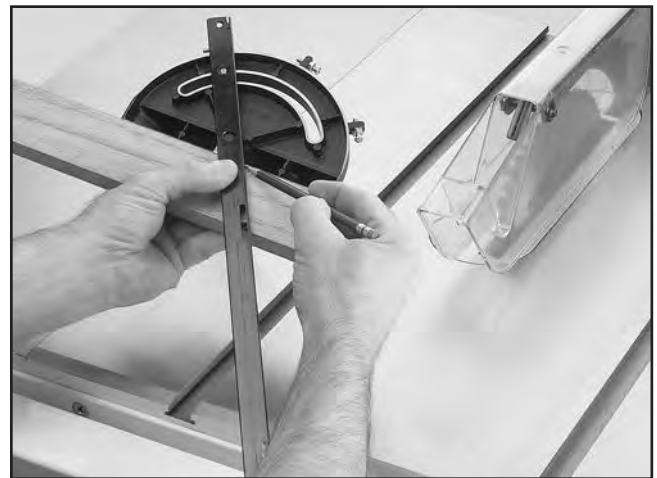

Figure 52. Example of marking miter line.
4. Place the face of the miter gauge against the edge of the workpiece and place the bar across the face of the workpiece. Use the bar as a guide to mark your cut as shown in **Figure 52**.